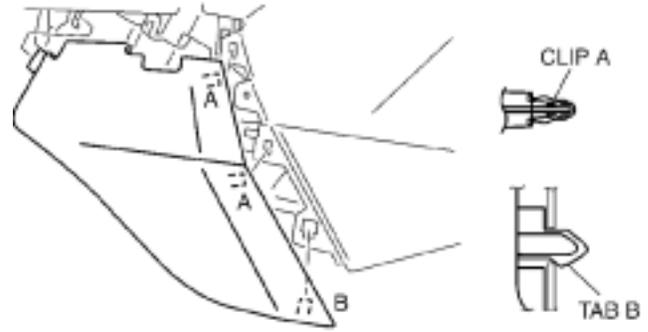

FIGURE 1
- 1.) DETACH CLIPS A AND TAB B IN THE ORDER OF TOP TO BOTTOM. (SEE FIGURE 1)